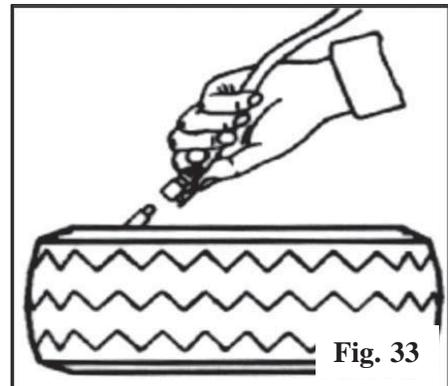

Fig. 33
- Position the blasting nozzle towards to the rim center just under the rim lip. (ref. fig.33)